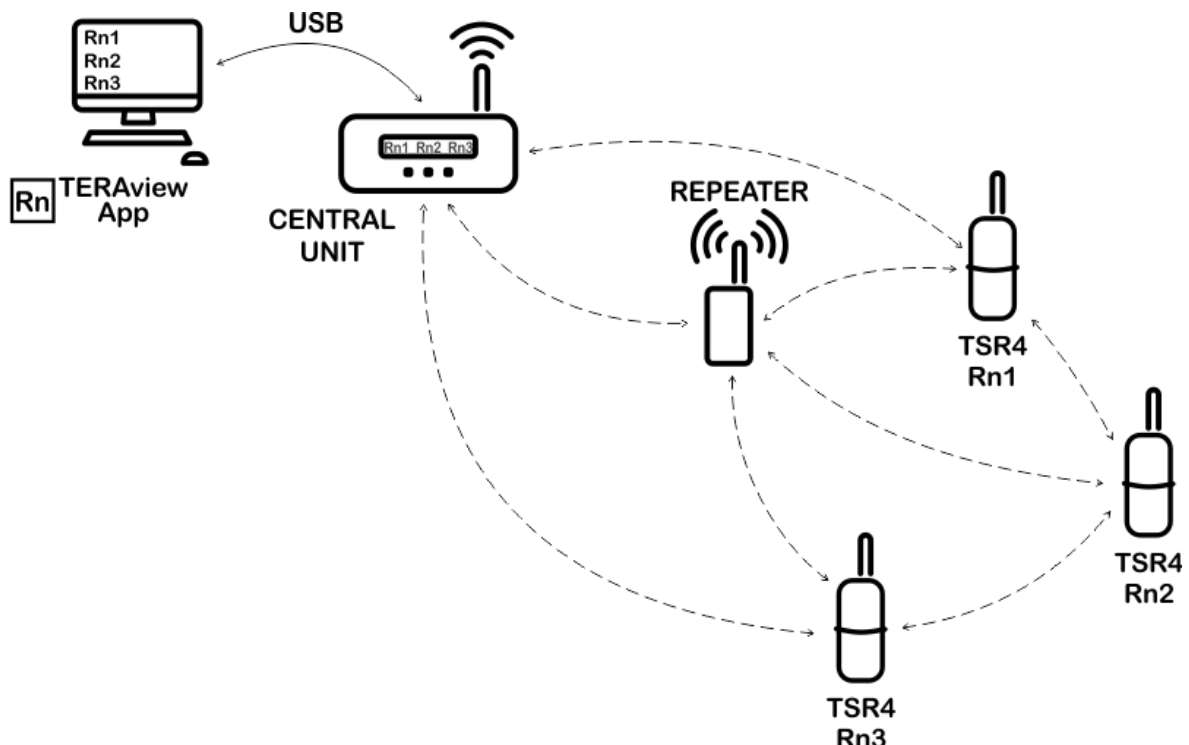

Figure 1 – TRR3 Wireless Repeater in TERA System for Radon Concentration Measurement
- A) TERA System for Radon Concentration Measurement (Figure 1)